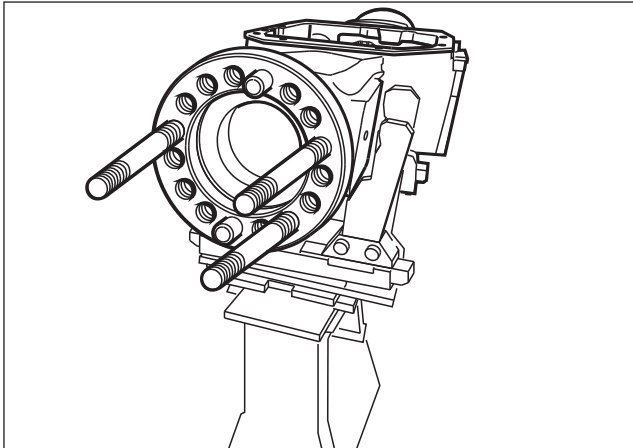

Fig. 3.1
1. Tighten the stud on the axle. - Fig. 3.1